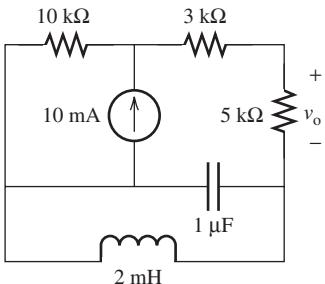

FIGURE P4.35 Circuit with capacitor and inductor.
- 4.35 (A)*** Find v_o in the circuit given in Figure P4.35.